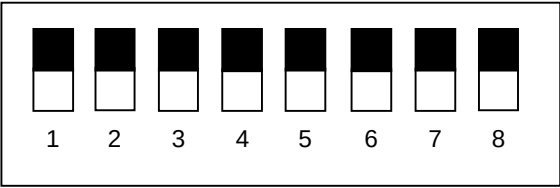

Figure 6.11.2 DIP switches (Being set for Standard setting)
- (2) Perform as the procedure shown below.
(3) Set the DIP switch No.4 as shown in Figure 6.11.2.